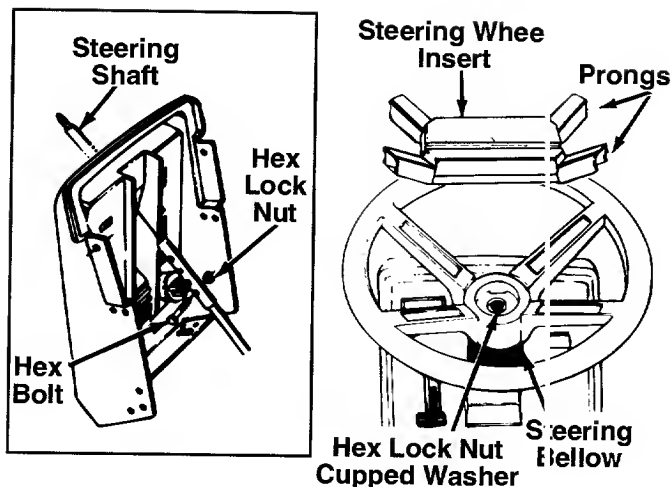

FIGURE 1.
1. There are four height positions for the steering wheel. For shipping purposes, the steering shaft is assembled in the lowest position. Lift the hood of the tractor. Remove the hex bolt and hex lock nut on the steering shaft. Raise the shaft to desired position and secure with hex bolt and hex lock nut. See figure 1.